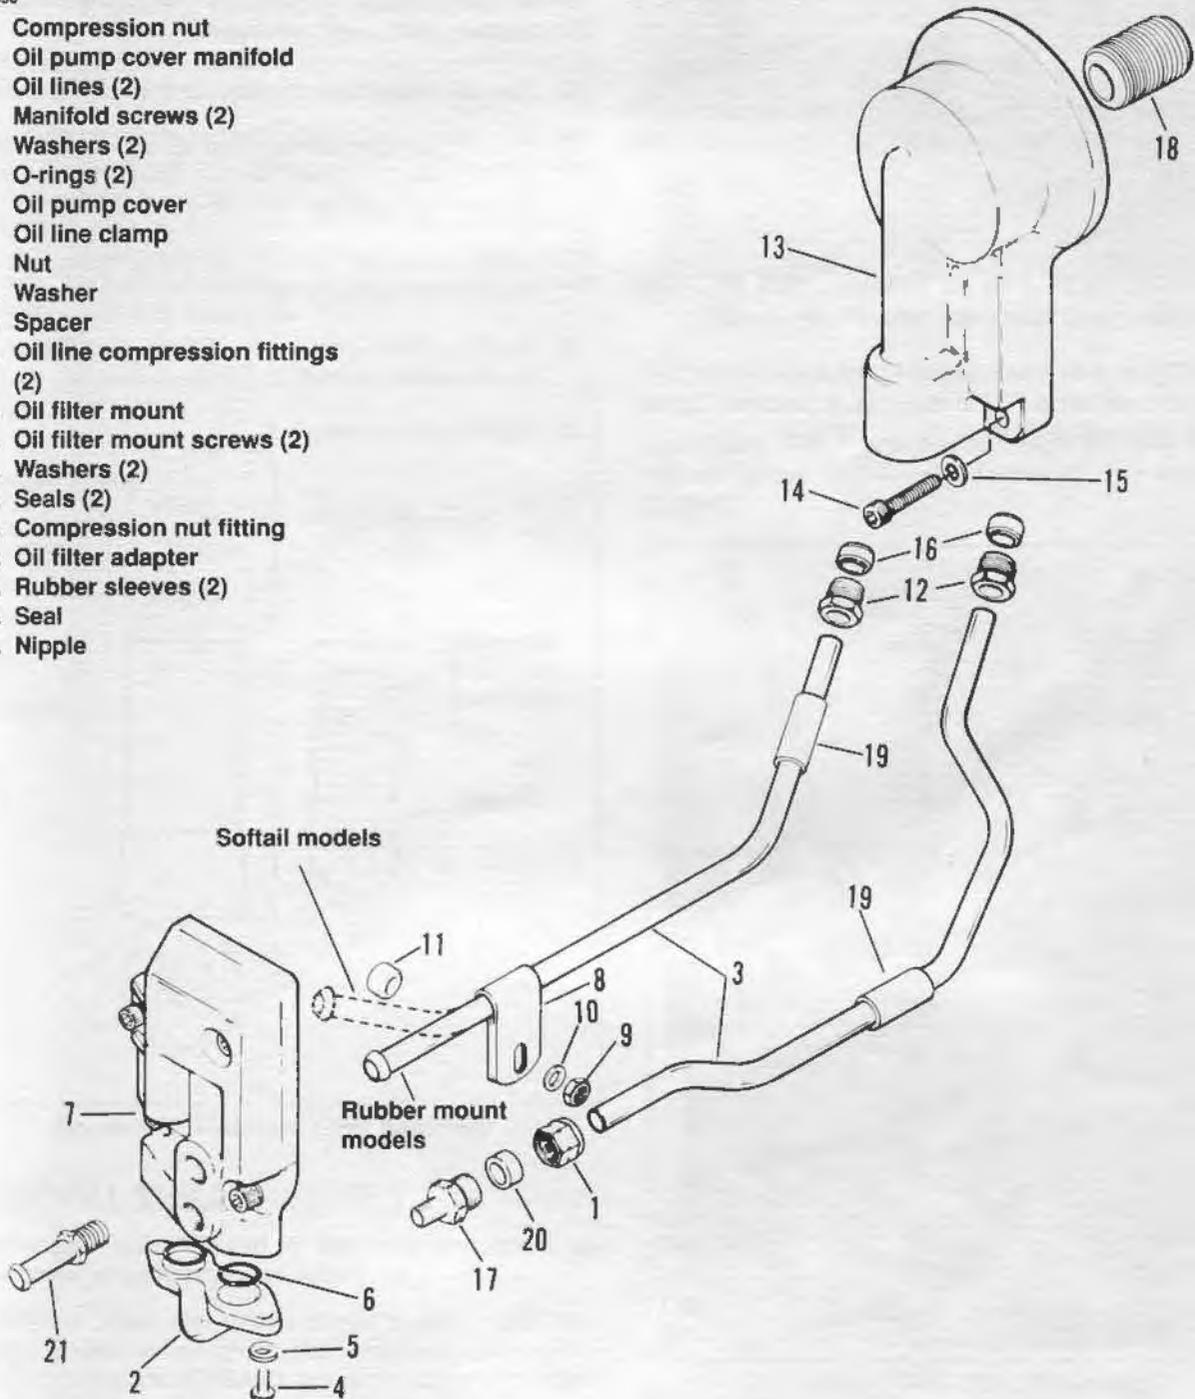

Figure 3-46. Oil Filter Mount and Oil Pump Cover
1. See Figure 3-46. Loosen oil line compression nut (1) at oil pump cover manifold (2) until it rests on the oil line (3).
2. Remove manifold screws (4) and washers (5).
3. Remove oil pump cover manifold (2) and O-rings (6) from oil pump cover (7).
4. Loosen or if necessary, remove oil line clamp (8) by removing nut (9), washer (10), clamp (8) and spacer (11).
5. Loosen or remove oil line compression fittings (12) at oil filter mount (13). Remove oil lines from oil filter mount.
6. Remove oil filter mount screws (14) and washers (15). Remove oil filter mount. Remove seals (16).
1. See Figure 3-46. Use Loctite 242 (blue) and install compression nut fitting (17) in manifold, if removed. Tighten to 80-90 **in-lbs** (9-10 Nm).
4. Install compression fitting oil seals (16) in filter mount holes (13).
5. Install fittings (12) in oil filter mount (13). Do not tighten at this time. Install adapter (19).
6. Install oil lines in oil filter mount fittings (12). Be sure the lines bottom in the holes.
7. Install oil line clamp spacer (11), clamp (8), washer (10) and nut (9). Do not tighten at this time.
8. Slide oil pump cover manifold (2) onto oil line.
9. Place oil pump cover manifold (2) and O-rings (6) on oil pump cover (7). Install manifold screws (4) and washers (5). Tighten screws to 70-80 **in-lbs** (7.9-9.0 Nm).
10. Install oil line compression nut (1) on fitting and tighten nut to 80-90 **in-lbs** (9-10 Nm).